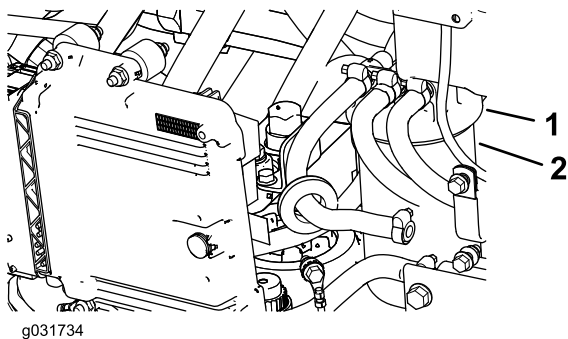

Figure 68
1. Clean the area around the fuel-filter head (Figure 68).
2. Remove the filter and clean the filter-head-mounting surface (Figure 68).